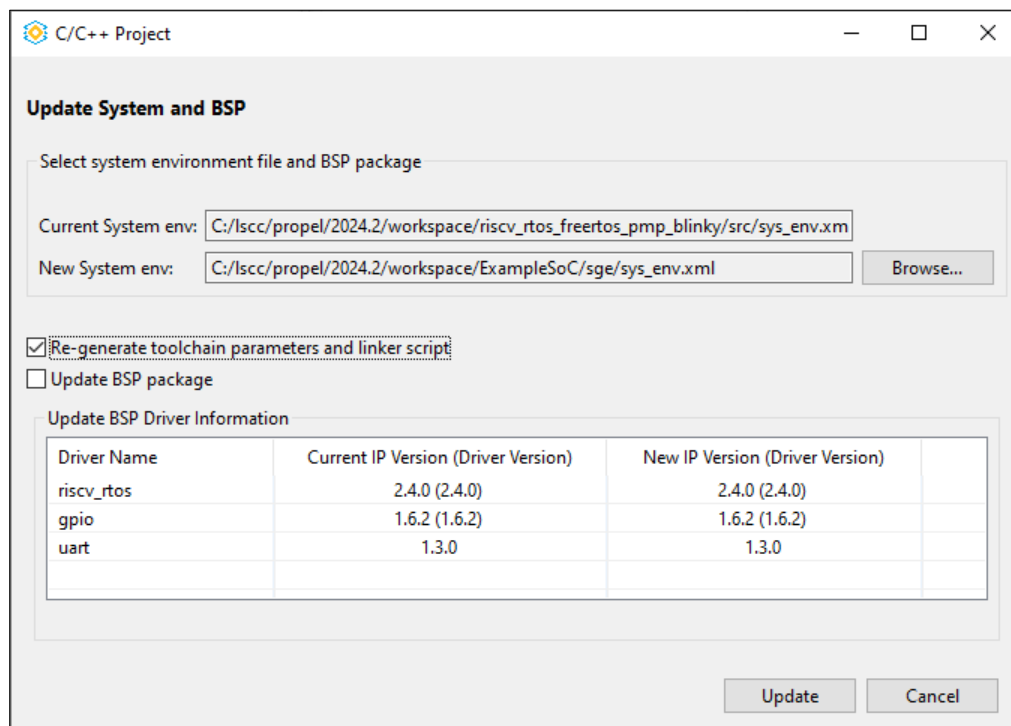

Figure A.13. Update System and BSP
6. Switch back to the C project by selecting **Project > Update Lattice C/C++ Project...** Check the checkbox for **Re-generate toolchain parameters and linker script**, click **Update** (Figure A.13). Choose **Yes** in the Confirm box.